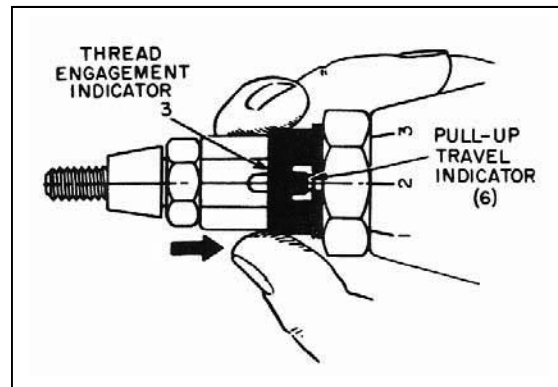
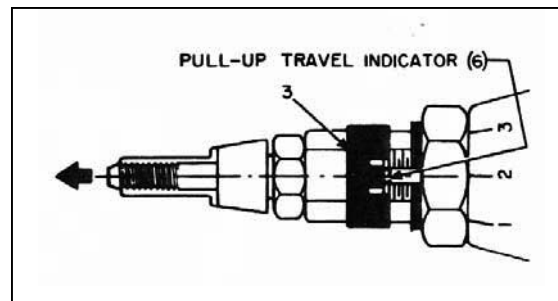
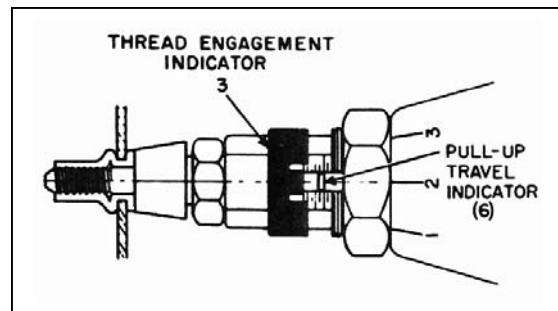

Figure 5 - Visual Indicators - Starting Position
Figure 6 - Visual Indicators - Full Thread Engagement
Figure 7 - Visual Indicators - After Fastener Pull-Up
1. A manually set sliding sleeve (fig 5) intended to show thread engagement of pull-up stud in the fastener.
2. A pull-up travel indicator (fig 7) intended to show the amount of pull-up of fastener in blind applications.
1. Slide the thread engagement indicator (3, fig 6) back against the threads of the pull-up stud housing, as in figure 5.
2. While installing a Rivnut or Plusnut fastener, observe that both indicators move forward together until the proper number of Rivnut or Plusnut threads have been engaged (fig 6) and pull-up action starts. Pull-up travel indicator then reverses direction and stops when pull-up is complete, showing the amount of pull-up travel (fig 7).